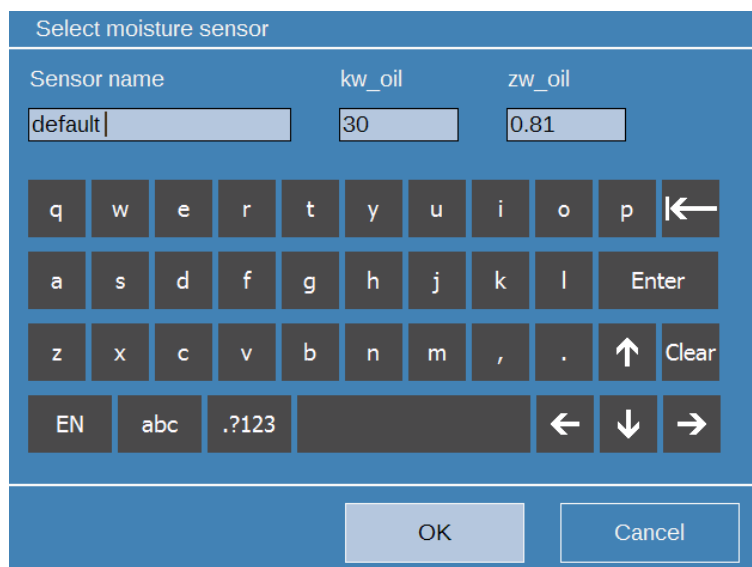

Figure 12-4: Select Moisture Sensor - keyboard - modifying calibration details
3. Press **Add New** to add a new bottle lid's details or **Edit** to modify the existing bottle lid's details as shown in Figure 12-4.
Use the onscreen keyboard to select the relevant fields and modify the current calibration factors for the default bottle lid as shown in Figure 12-4.